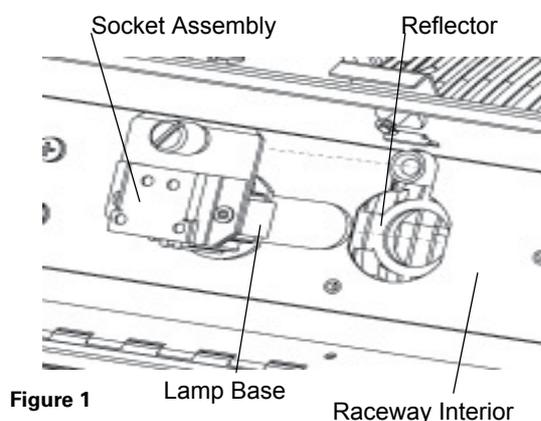

Figure 1
8. To reinstall the socket assembly, insert until the heat sink base rests flush against the reflector, then tighten the knurled bolt to secure the socket assembly in place. See (Figure 1)